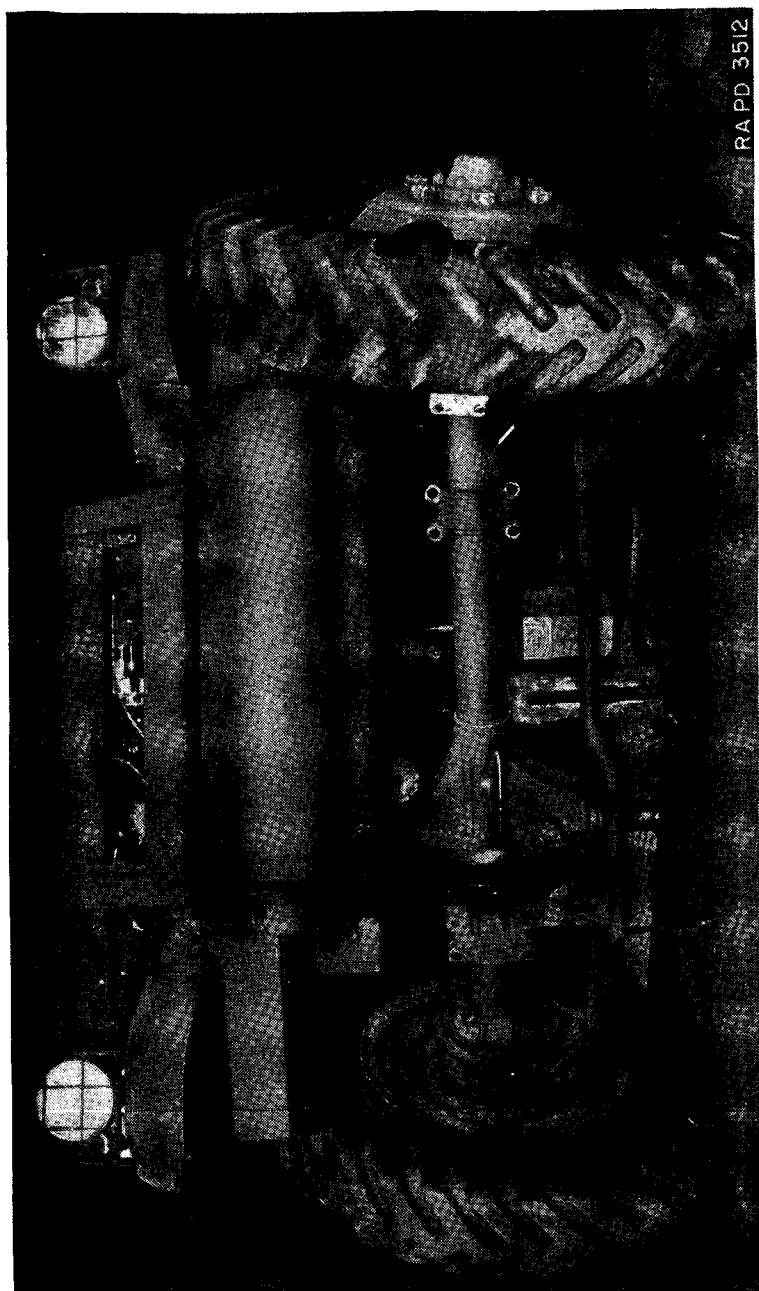

FIGURE 10.—Front axle removal.
g. Remove axle from car. By juggling slightly, roll out entire axle and wheel assembly from under car (fig. 10).